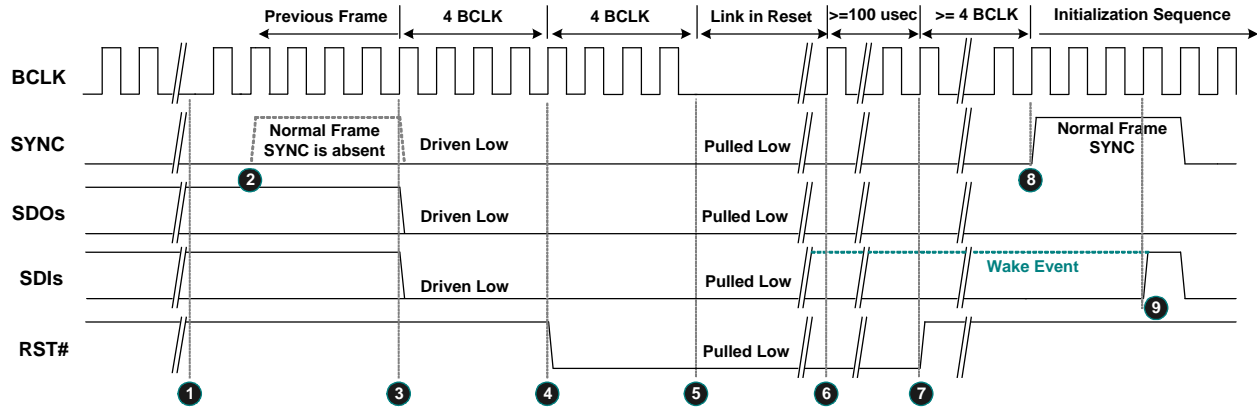

Figure 14. Link Reset Timing
3. Software initiates power management sequences. Figure 14, shows the ‘Link Reset’ timing including the ‘Enter’ sequence (❶~❺) and ‘Exit’ sequence (❻~❾)